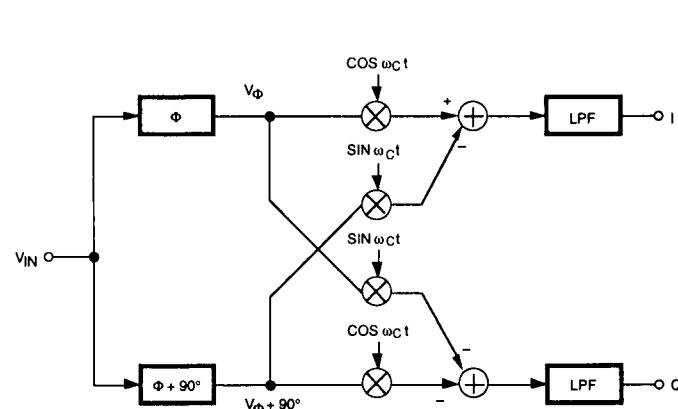

Figure 3. Block Diagram of QAM Modulator
components centered at  $2f_C$ , which can be removed by lowpass filtering. A more efficient way to eliminate the  $2f_C$  sideband is to use a single-sideband (SSB) demodulator. In exact analogy to the SSB demodulator, we can recover  $a(t)$  and  $b(t)$  from an appropriate combination of the in-phase and quadrature receive signals, as shown in Figure 3.
The phase-shifter in Figure 3, also known as a Hilbert transformer, produces an in-phase and 90 degrees out of phase component over the frequency band of the receive signal. The output of the PGC goes to the demodulator. In the demodulator, the signal first passes through the Hilbert transformer that produces in-phase and 90 degree out-of-phase components.
The in-phase and the out-phase components from the output of the Hilbert transformer are then demodulated to the baseband in a mixer stage. This is achieved by multiplying the individual components by a free-running carrier. The frequency of the carrier is 1700Hz for V.29 mode and 1800Hz for V.27ter. The block diagram of the QAM modulator is shown in Figure 3. The baseband components are filtered by two lowpass filters with -3dB frequencies equal to one-half of the baud frequency to produce in-phase (I) and quadrature (Q) channel outputs. The I and Q channel outputs are both smoothed by the distributed R-C filters before they are applied to the 10-bit analog-to-digital converter (ADC), where they are sampled by the recovered timing signal.